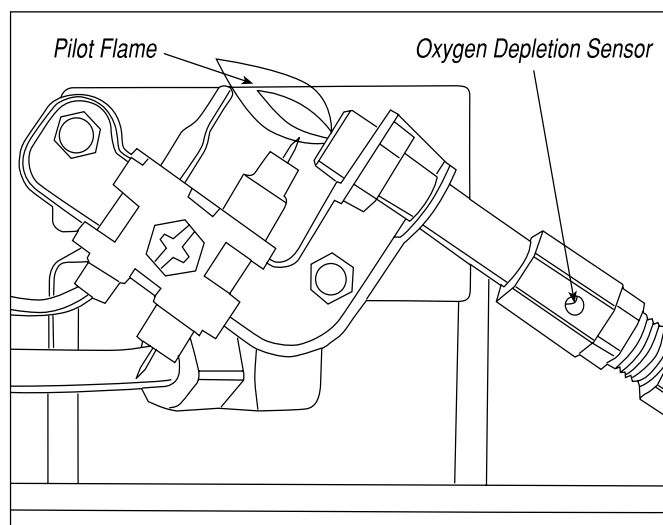

Figure 3
Visually inspect the pilot flame and burner periodically during use. The pilot flame should be blue in color (not yellow) and will extend beyond the thermocouple. The flame will surround the thermocouple just below the tip, see Figure 3. A slight yellow flame may occur where the pilot flame and main burner flame meet. The burner(s) should be bright orange (with a slight blue color around the border, a red-orange haze that is visible on the ceramic tile is acceptable) and without a noticeable flame. A blue flame that rolls out at the top of the ceramic tile indicates an accumulation of dust, lint or spider webs inside the casing assembly and main burner assembly. If the pilot is yellow or the burner has a noticeable flame, cleaning may be required. Use the following procedure to inspect the casing assembly and main burner assembly.
- 4 Remove (4) screws securing back cover to heater. Lift up slightly to release (2) plastic hooks on top of back cover.
- 6 Remove (3) screws attaching lower baffle to expose burner air openings.
- 9 Inspect and clean pilot (mounted to bracket) by using a vacuum or apply air pressure through the holes in the pilot indicated by the arrows in Figure 3.
- 11 Reinstall lower baffle with (3) screws
- 12 Slide back cover over (2) plastic hooks on top of heater. Make sure rear cover aligns with plastic side covers. Install (4) screws to hold in place.